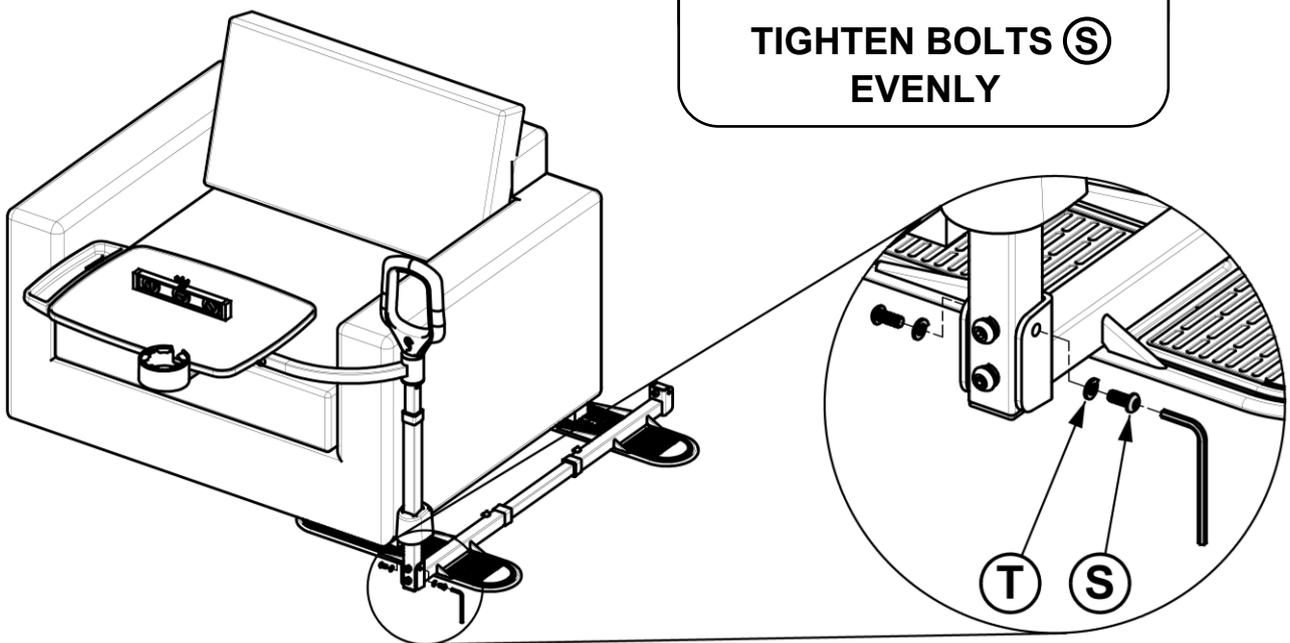

FIGURE 31
31. While keeping the Tray Level, insert Bolts **S** (2x) through Washers **T** (2x) and into holes in Upright **D**. Tighten Bolts **EVENLY**, as shown in *FIGURE 31*.